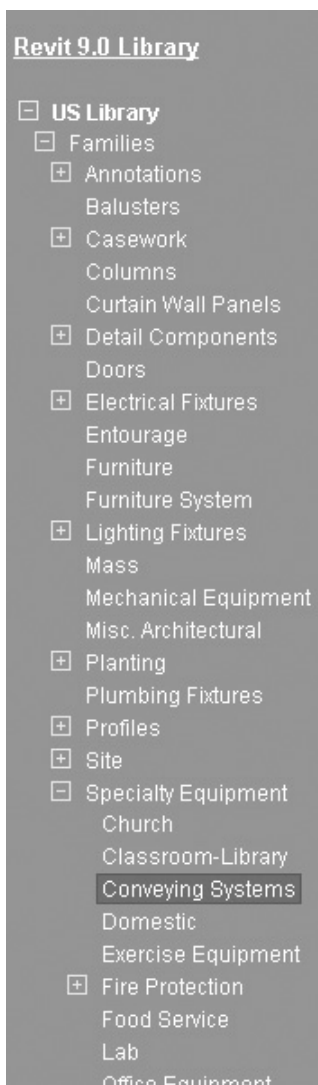

Figure 3-4.3 Web content categories
5. Click the plus next to **US Library, Families, Specialty Equipment,** and then select **Conveying Systems.** (Figure 3-4.3)